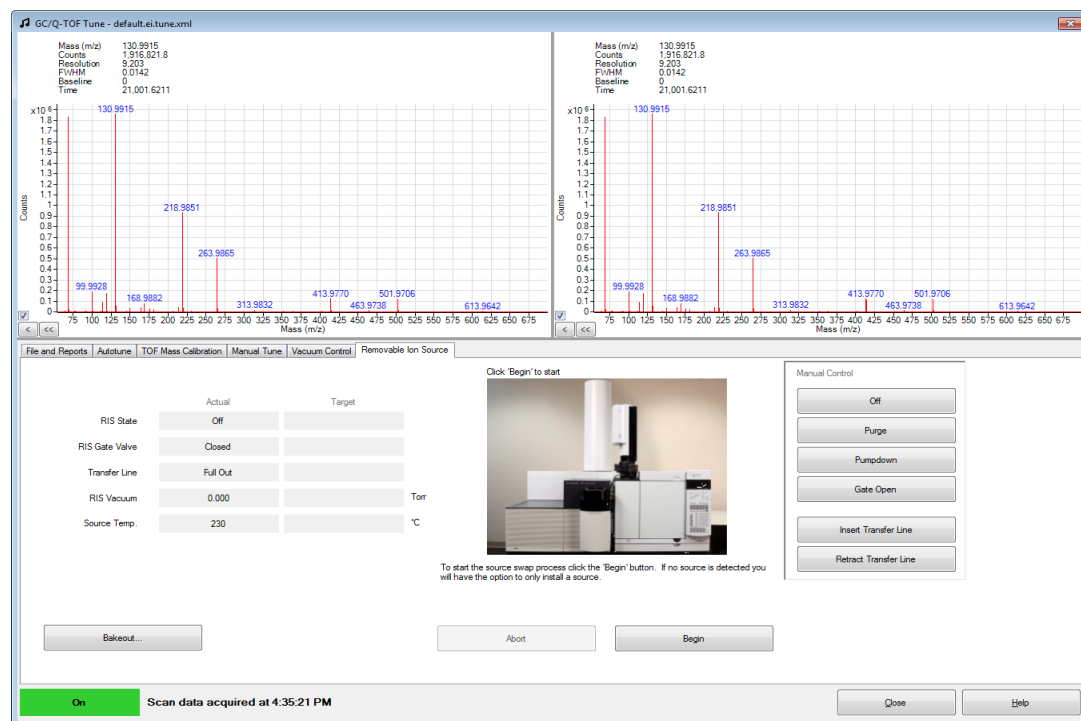

Figure 19 GC/Q-TOF Tune dialog box
- 2 Click the **Removable Ion Source** tab in the **GC/Q-TOF Tune** screen. (Figure 19)